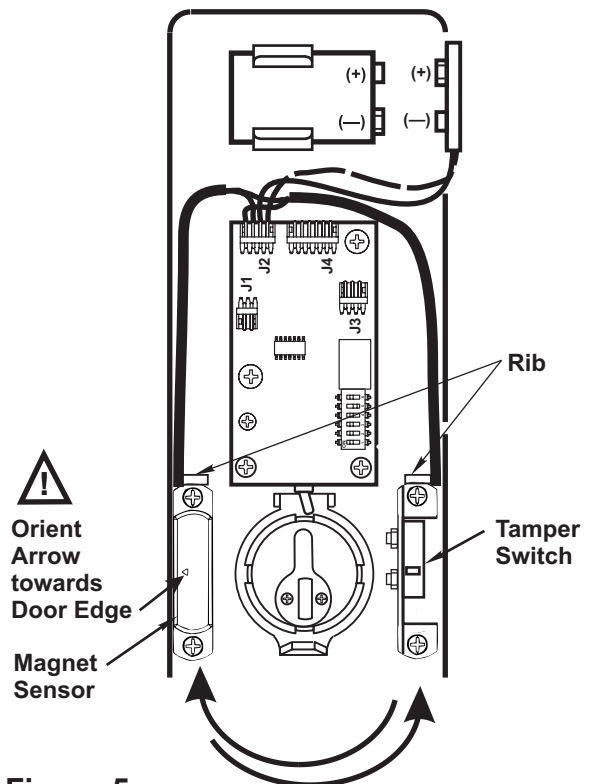
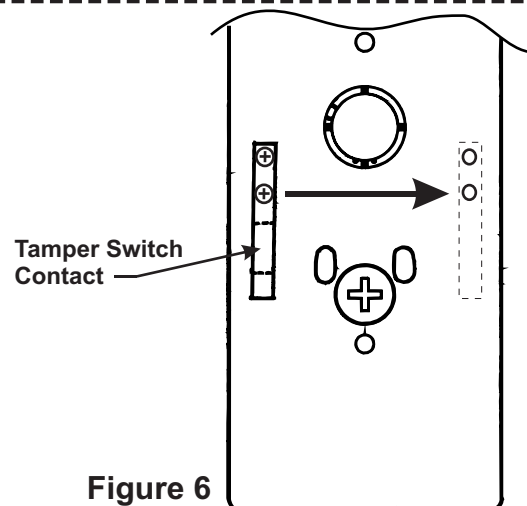

Figure 5
Figure 6
1. Remove (2) screws retaining the magnet sensor and set components aside.
2. Remove (2) screws retaining the Tamper Switch and exchange locations of both components (See **Figure 5**).
NOTE: a. The arrow on the magnet sensor should face outward, towards the edge of the door (See **Figure 5**).
4. Remove and relocate tamper switch contact from mounting base to opposite location as shown below (See **Figure 6**).
5. Reattach with (2) screws.
<ul style="list-style-type: none"> Alarm sounds when keyswitch is activated. 	<ul style="list-style-type: none"> Magnet Sensor is not installed correctly. Verify that the proper handing applies (See Step 3, Figure 5). Tamper Switch is not closing when Alarm Housing is installed. Make sure Switch Contact is located in the correct position (See Step 3, Figure 6). Verify that the Alarm Housing is installed correctly. J2 connector not installed, or loose.